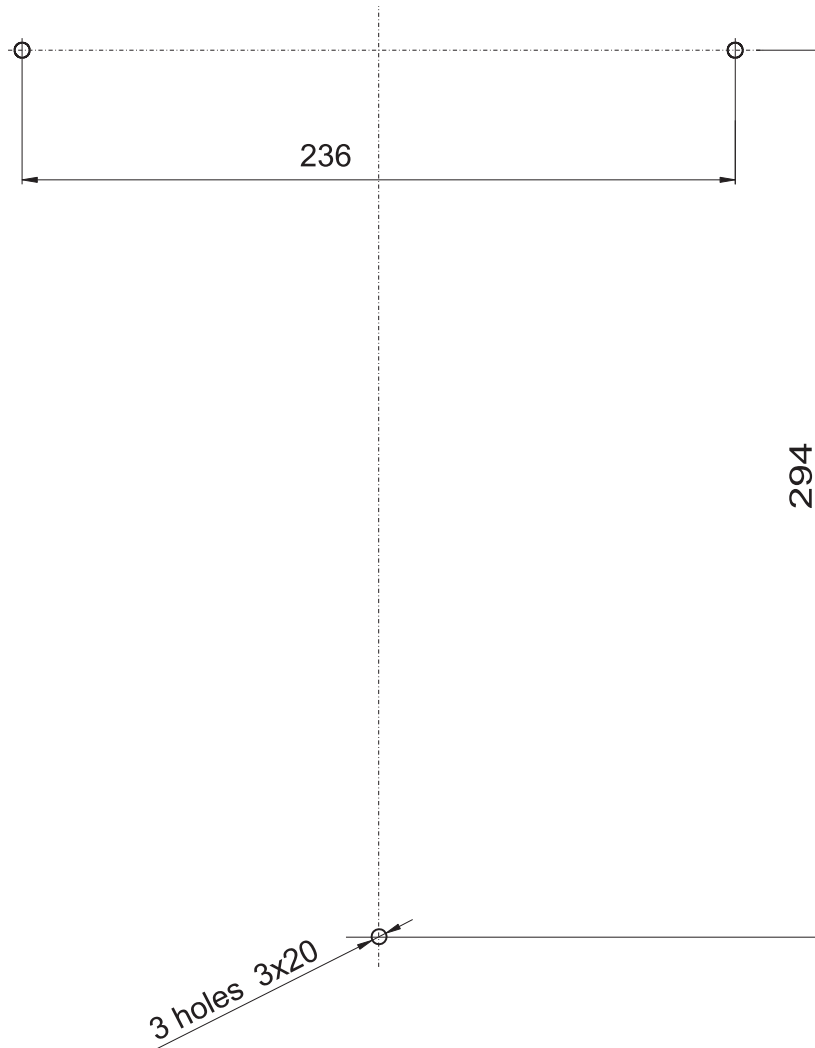

Fig. 6. Hole pattern for CU mounting
- mark out the holes for wall mounting of the control unit (8) as shown in Figure 6;
- mount the CU (8) using the two 4x20 mm screws and fix it with the bottom screw to prevent accidental pulling off.